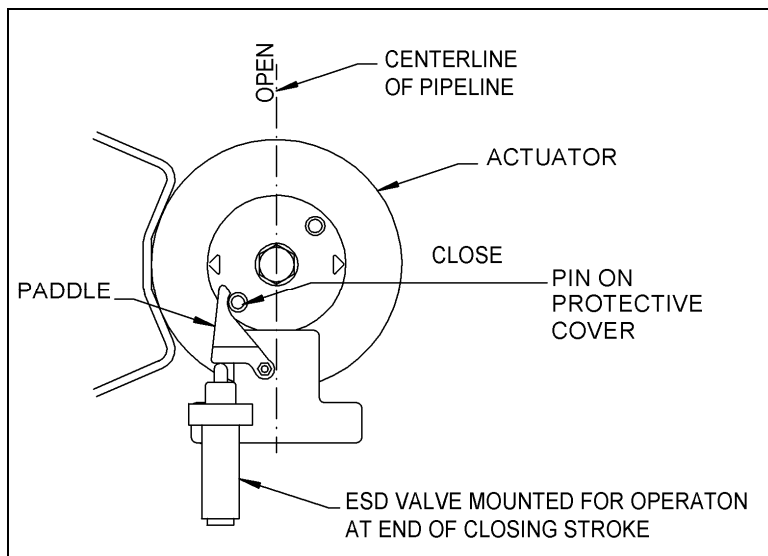

Figure 12: Actuator at End of Stroke Close Position
7. The Actuator will stroke to the end of the stroke as designed (see your schematic for position). This is where the Limit Valve should operate (see Figure 12).